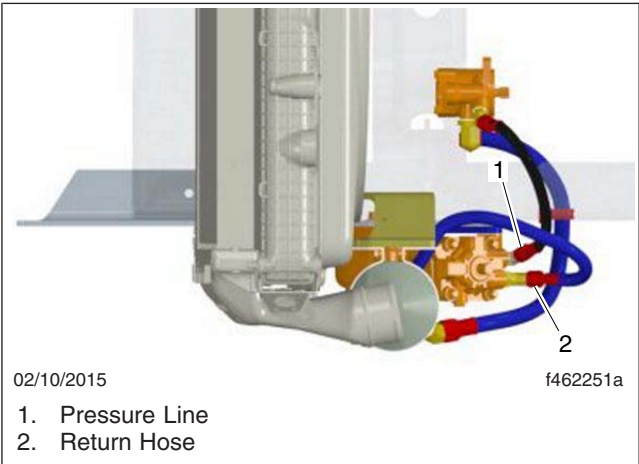

Fig. 3, Power Steering Reservoir, Top View
7. Remove the pressure line and return hose (see **Fig. 3**) from the steering gear and allow the oil to drain.